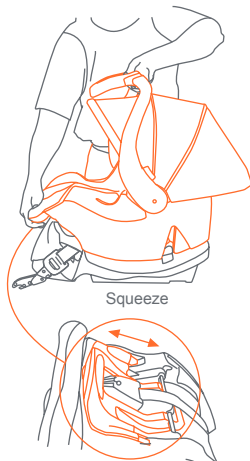

Fig. 23-1
- To remove the car seat from the base, squeeze the Base Release handle, located below the foot end of the Safety Seat, to release the Safety Seat from the Base. Please see (Fig. 23-1).